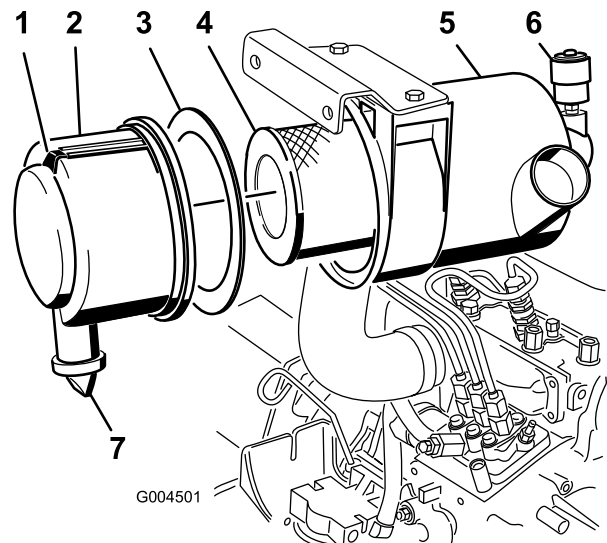

Figure 34
3. Service the air-cleaner filter when the air-cleaner indicator shows red or every 400 hours and service it more frequently in extremely dusty or dirty conditions (Figure 34).